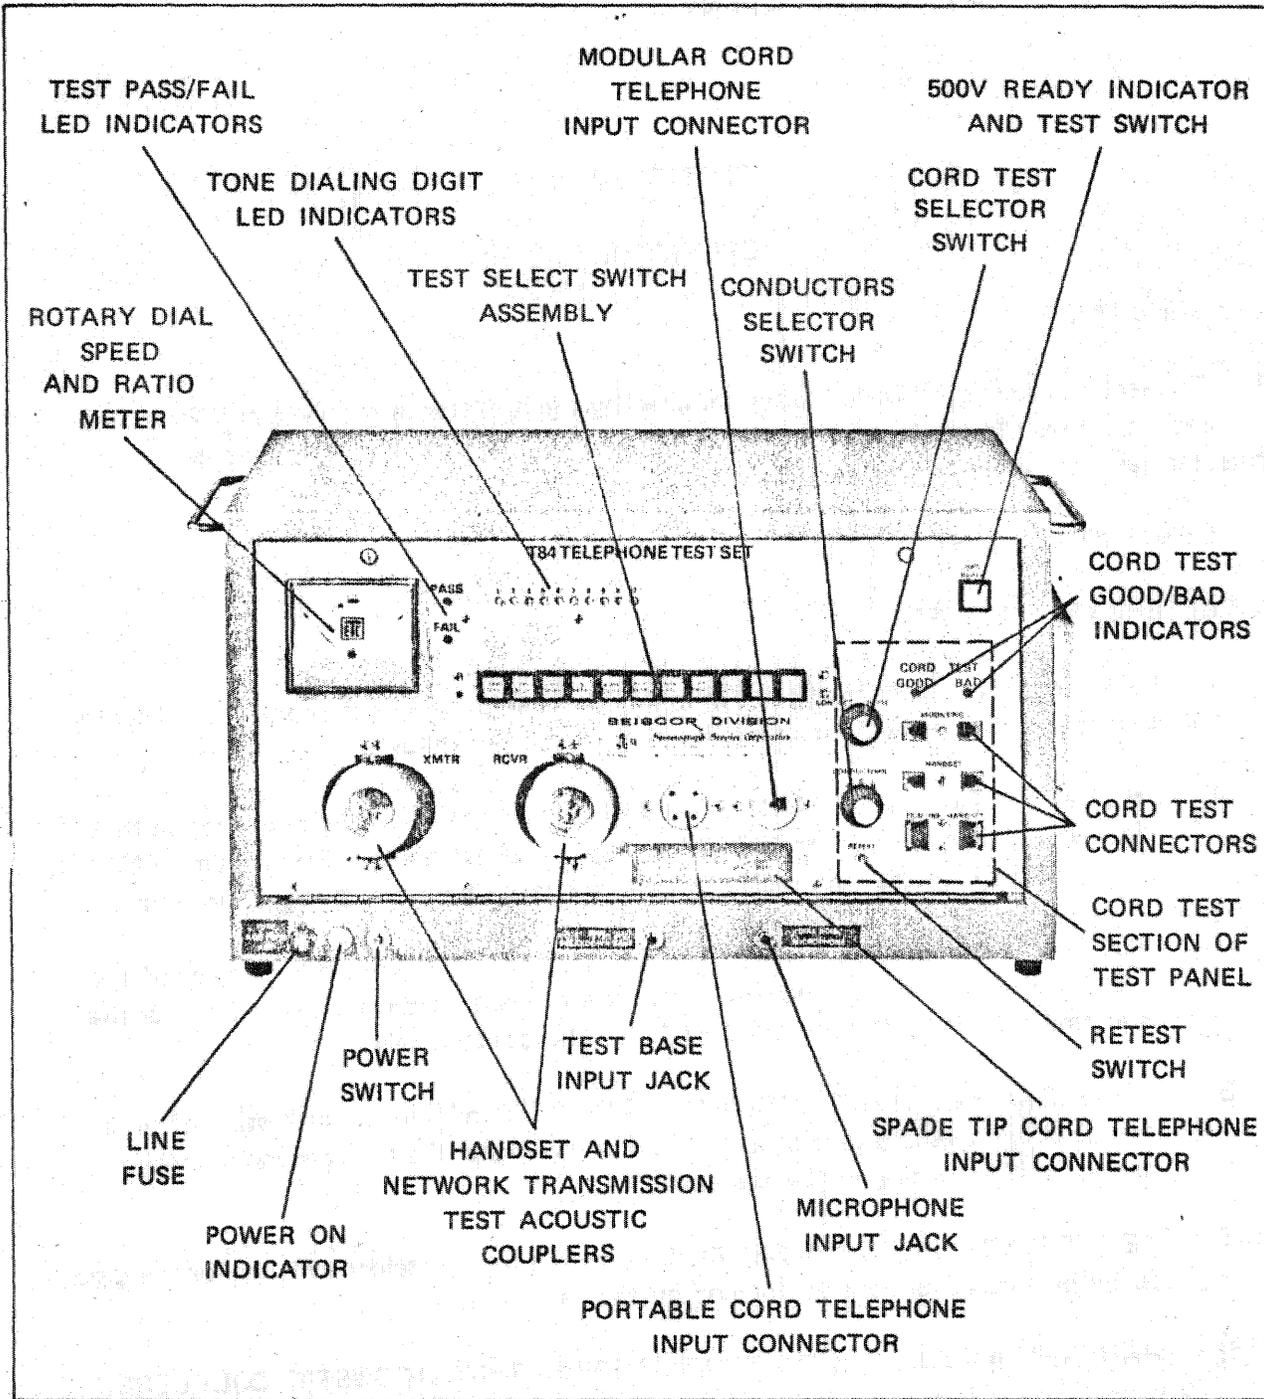

Fig. 3—Test Panel T-84 Test Set
2.01 The T-84 Test Set control panel is shown in Fig. 3. The purpose of the controls, indicators, test connectors, and acoustic couplers on the panel is as follows:
20. Test Set KTU Cable (not visible in Figs. 3 or 4): used to connect the test set to a TD508 or a T-8 KTU to test tone dialing telephones, or used to connect the test set to "to-be-tested" TD508 or TC1900 (or equivalent) KTU's.
4	Verify that all eleven of the test switches of TEST SELECT SWITCH ASSEMBLY (refer to Fig. 3) of the T-84 (or T-84R) Test Set are in the full "out" position. NOTE: Slightly depress any released switch (other than 500V BRKN or TIP PTY switch) to release a depressed switch. The TIP PTY switch is released by fully depressing this switch then releasing it.